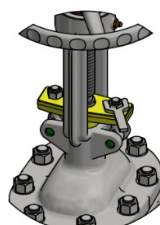

Figure D.1.26 – Stem packing gland tightening
- The gate-stem packing should be the subject of particular attention as it is important for the qualitative maintenance of tightness and shall be checked every 3 months. If leakage at the stem packing is detected, the gland nuts should be tightened slowly (Figure D.1.26). Torque for tightness gland nuts shown in Table D.1.10. When gland nuts are tightened, if the gland falls down more than twice the packing ring height, new packing rings should be added to the stem packing.